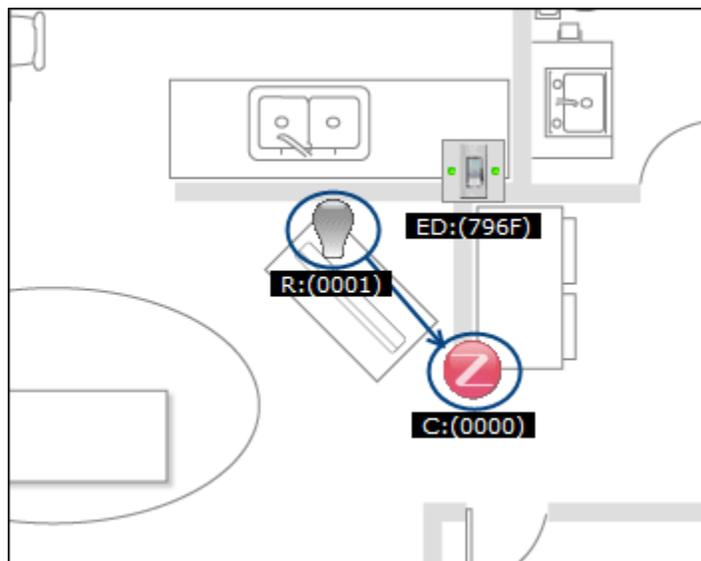

Figure 4-9. ZeD Binding View Showing Binding between On/Off Light and Combined Interface
2. Notice that the view already shows a binding from the On/Off Light to the Combined Interface as shown in Figure 4-9. This binding is automatically made by ZeD when the device is detected so that the light will report to the Combined Interface when it turns on or off.